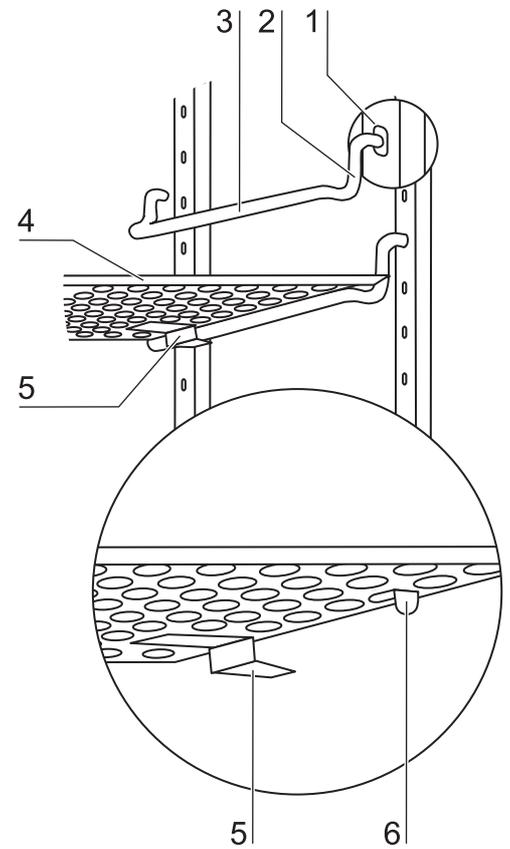

Fig. 13
1. **Fig. 13:** Insert the shelf supports [3] into the perforations [1] of the support rail with the bar facing down.
1. **Fig. 13:** Push the shelf [4] onto the shelf supports with the tilt protection [5] facing the rear panel of the device. The tilt protection [5] is also used as a guide for the shelf.